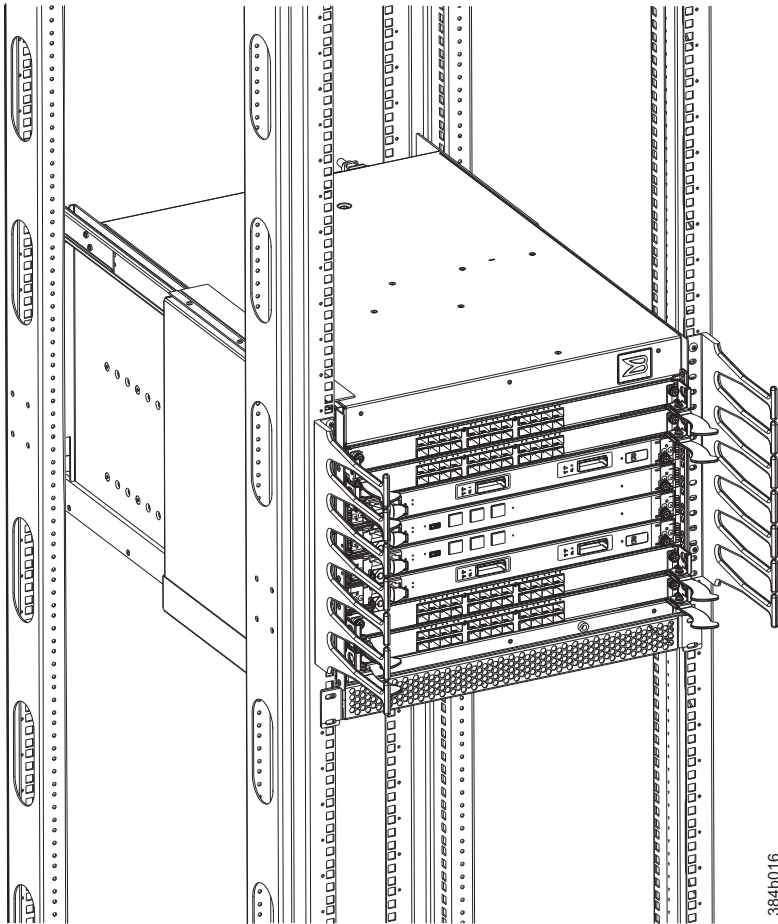

Figure 11. 2499-416 cable finger assembly location
3. While supporting the assembly to prevent it from falling, unscrew and save the two screws used to attach the left cable management assembly to the rack upright (see Figure 11 on page 24).